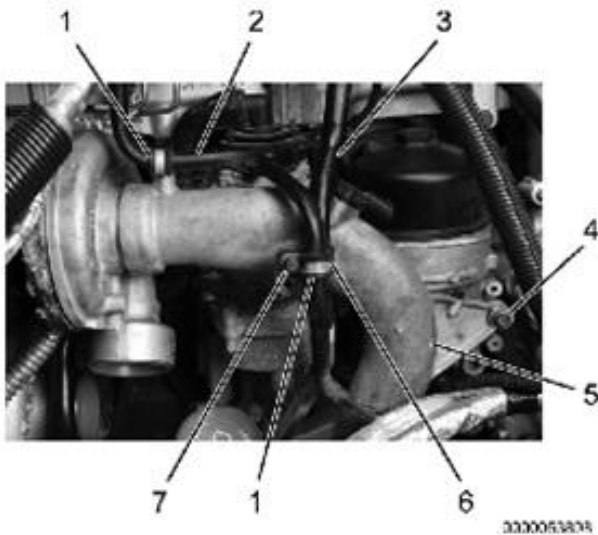

Figure 14. Coolant Tubes.
1. Coolant tube P-clamp (2)
4. HP turbocharger inlet duct bolt (2)
7. Coolant tube P-clamp bolt (2)
8. Secure HP turbocharger inlet duct (Figure 14, Item 5) with two HP turbocharger inlet duct bolts (Figure 14, Item 4).
9. Position coolant return tube (Figure 14, Item 2), coolant supply tube (Figure 14, Item 3), two coolant return tube P-clamps (Figure 14, Item 1), and coolant supply tube P-clamp (Figure 14, Item 6) on HP turbocharger inlet duct (Figure 14, Item 5), and secure with two coolant tube P-clamp bolts (Figure 14, Item 7).